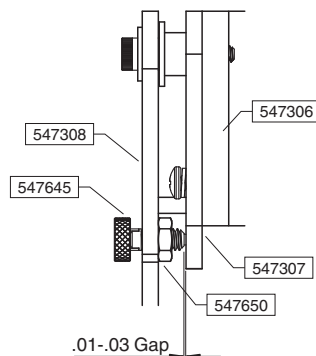

Figure 4.9 Keyboard tray clearance adjustment
7. Align the other mounting hole on each flange to the second hole on the yoke. Insert two pan head screws (2x 547652) (one on each side), with a lock washer (2x 547653) on each screw, into each of the remaining threaded holes. See Figure 4.9.